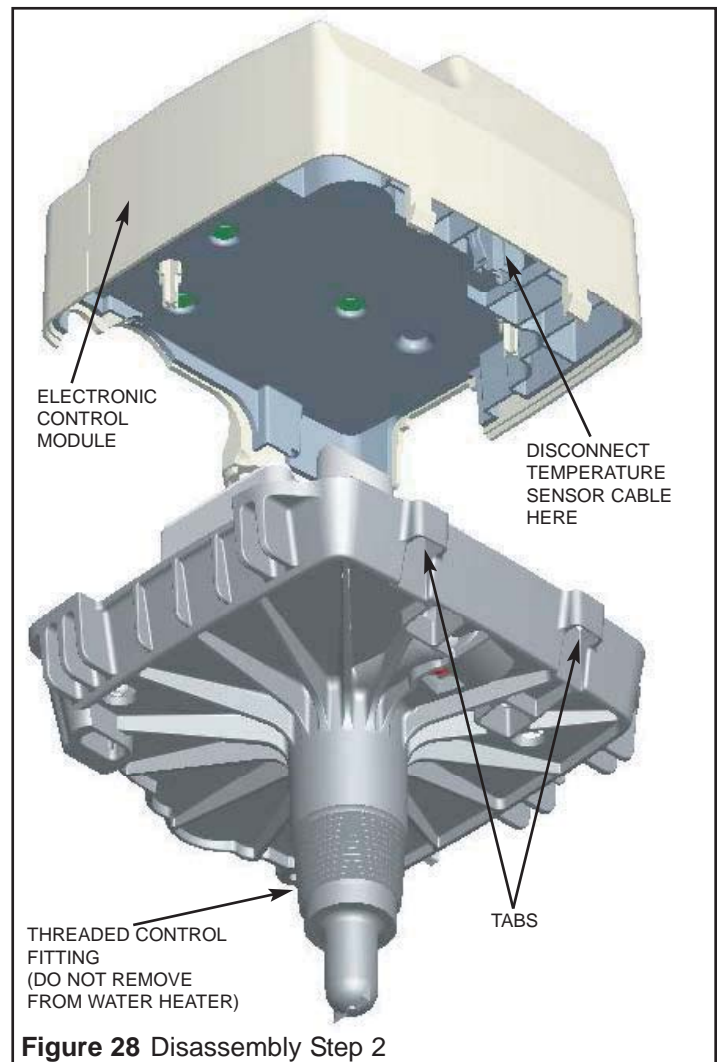

Figure 28 Disassembly Step 2
2. Use a flat-blade screwdriver to release the two tabs at the top of the gas control and lift the electronic control straight up (see Figures 28 & 29).